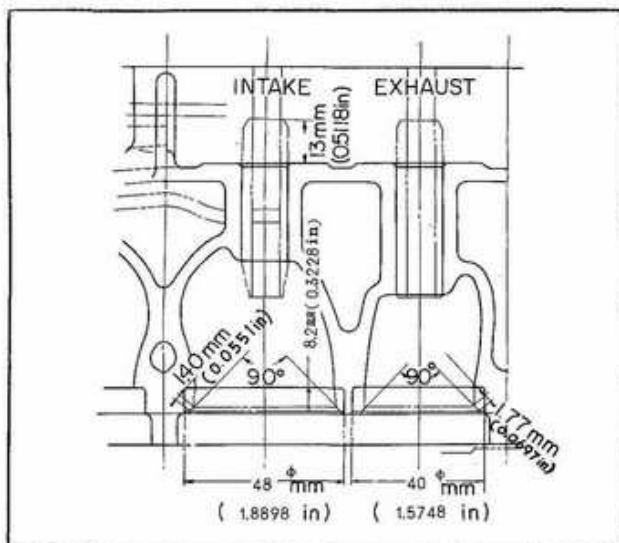

Fig. EM-58 Sectional View of
- The seating of the cylinder head must be machined to the dimensions given in Fig. EM-58. Each valve seat insert should have